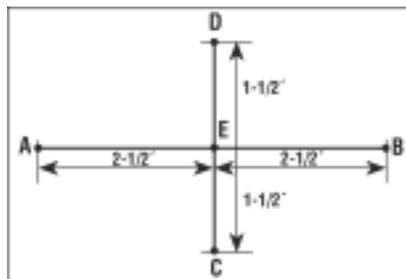

Fig. 1
1. Draw straight line AB on the material and erect perpendicular line CD through center point E (Fig. 1).